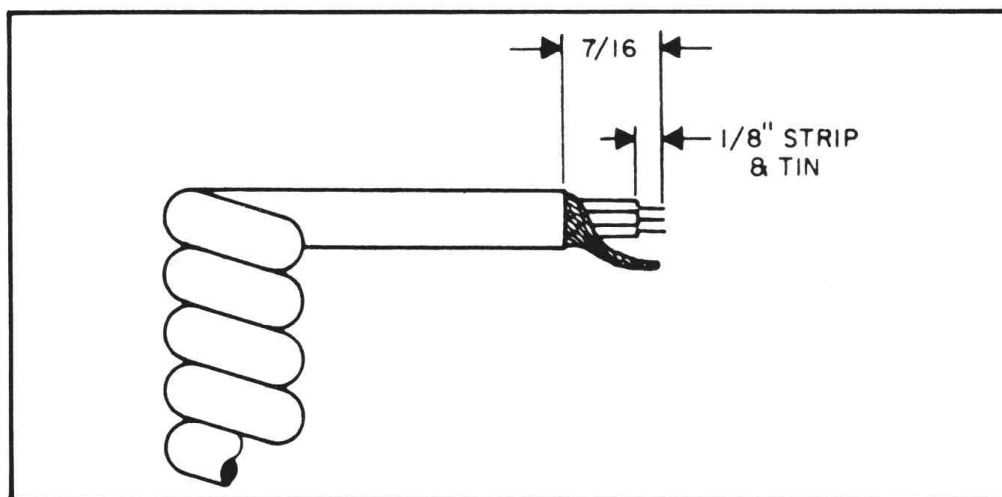

Fig. 1. Microphone cable preparation.
1. The leads should be cut so that they extend $7/16''$ beyond the plastic insulating jacket of the microphone cable. See Fig. 1 below.